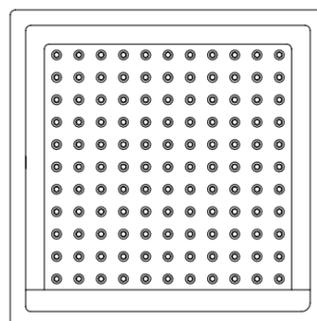

FIG 1
- ✓ Always use a full load of glasses and place the basket centrally onto the Airack (Fig 1).